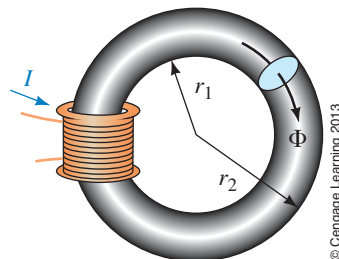

FIGURE 12–42
- If r_1 of Figure 12–42 is 3.5 inches and r_2 is 4.5 inches, what is the flux density in the English system of units if $\Phi = 628 \mu\text{Wb}$?